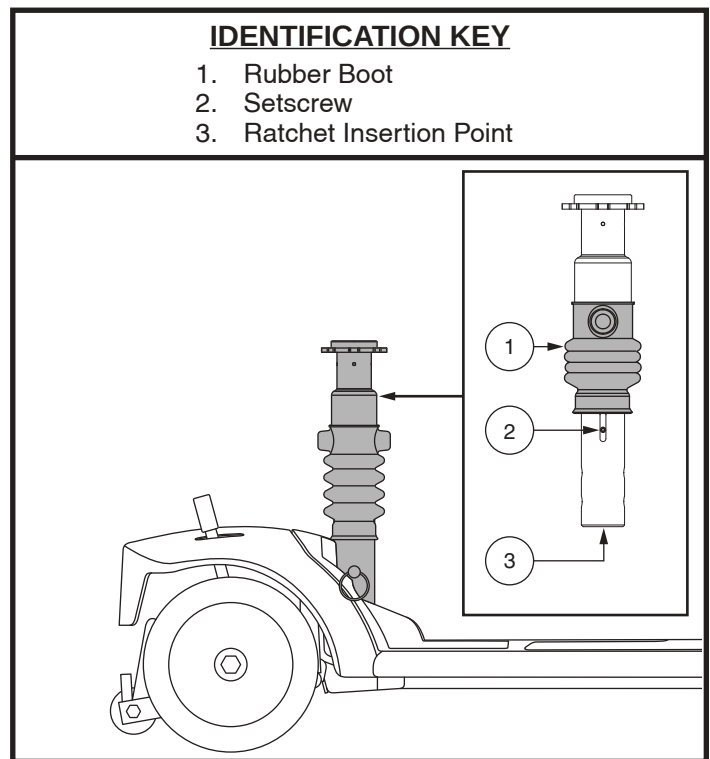

Figure 31. Seat Suspension Adjustment
The seat post acts as a shock absorber and can be adjusted for different degrees of ride comfort. Use the setscrews that are visible through the adjustment window on the side of the post as a guide when making adjustments. Slide the rubber boot towards the top of the post to expose the setscrews. See figure 31.
3. Insert a 13 mm socket with an extension into the bottom of the post. See figure 31.